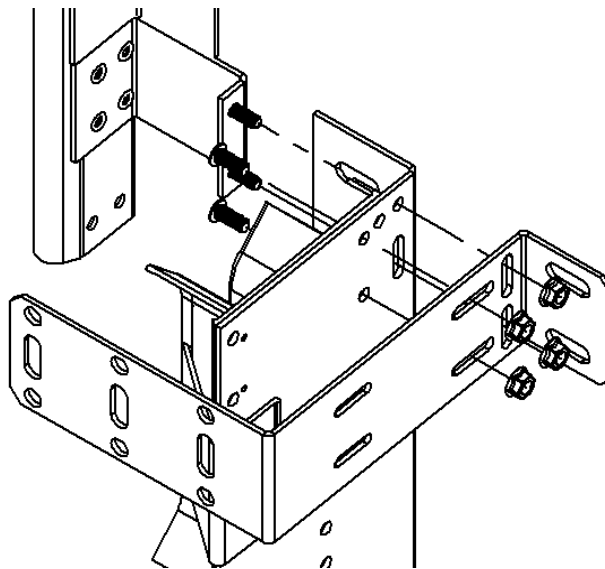

Figure 11 Attaching Upper Mounting Rail Assembly to Mounting Rail
3. Attach End Bearing Assemblies to Upper Mounting Rail Assembly. **(SEE FIGURE 11)**